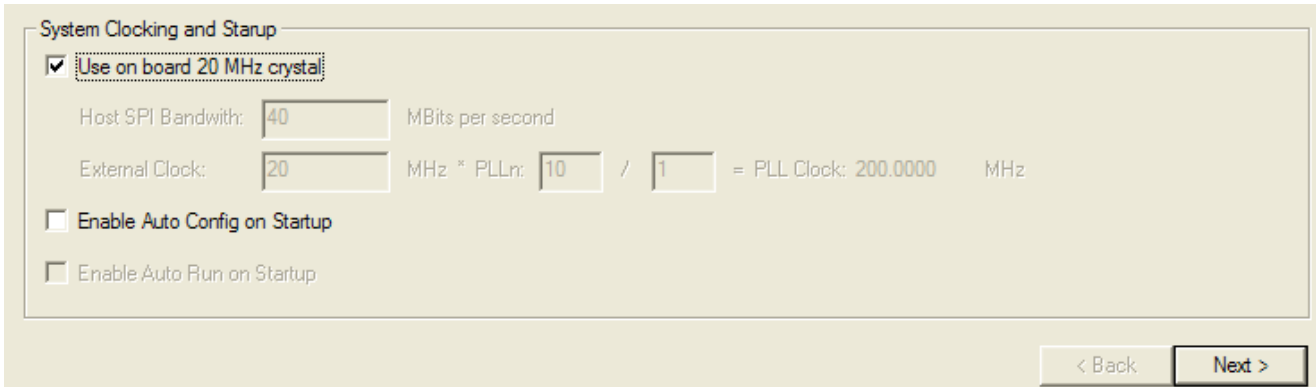

Figure 3:
5) **Software** The Clock input is defaulted to the 20 MHz crystal required by the evaluation board. See figure 3.